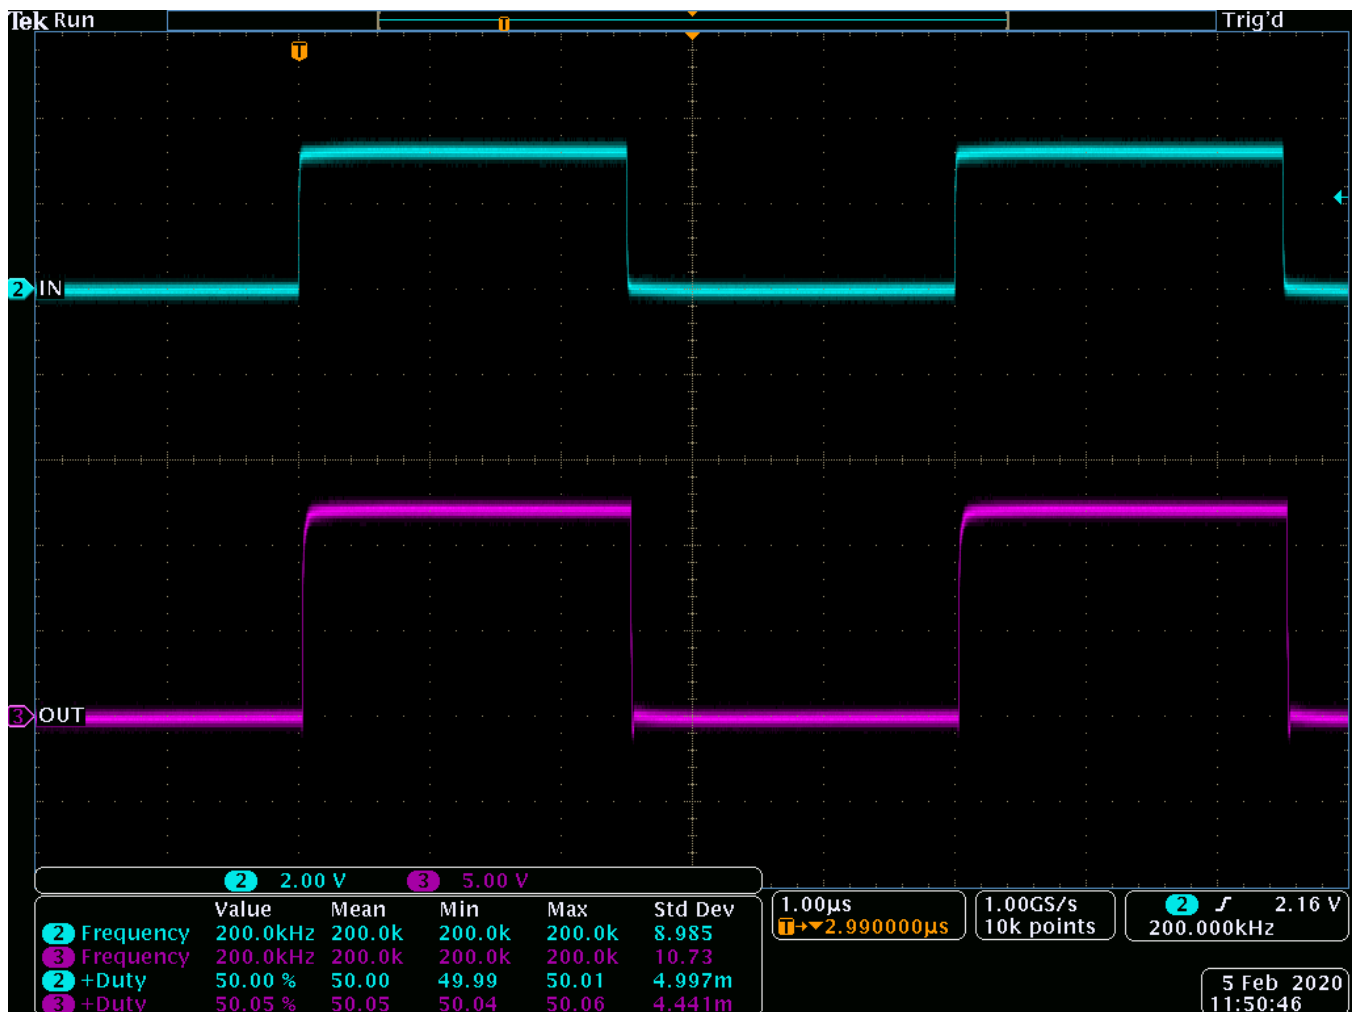

Figure 3. Example Input and Output Waveforms (Inputs: CH2, Outputs: CH3)
1. Before proceeding with the power up test procedure, ensure that the steps in Section 4.2.6 are complete. Then, Figure 3 can be used as a reference for the expected behavior of the EVM.
1. Stable pulse output appears on channel 1 in the oscilloscope, see Figure 3.